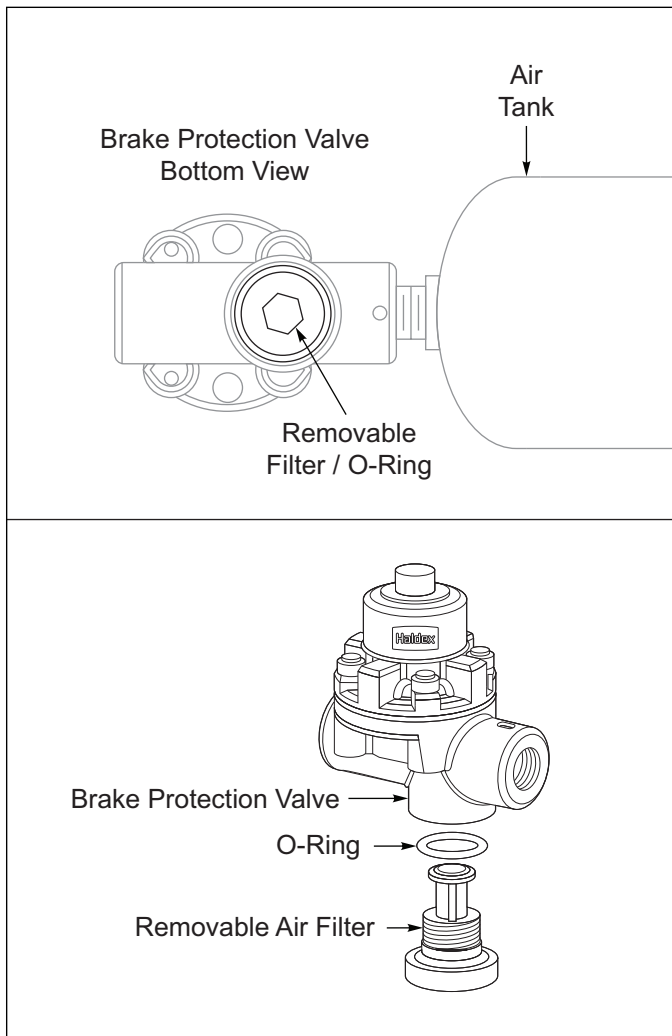

Figure 4-2: Brake Protection Valve Filter
3. Check the brake protection valve filters every 3 months or when the air flow becomes restricted, **See Figure 4-2**.